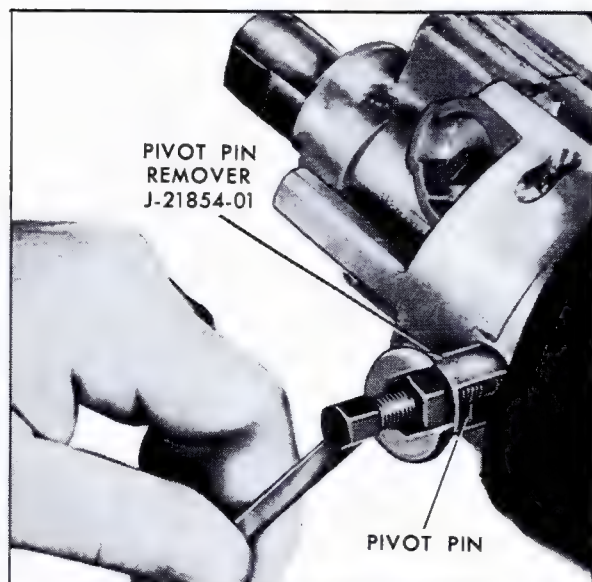

Fig. 9-53 Removing Pivot Pin
22. Install Pivot Pin Remover, J-21854-01, and remove pivot pins, Fig. 9-53.